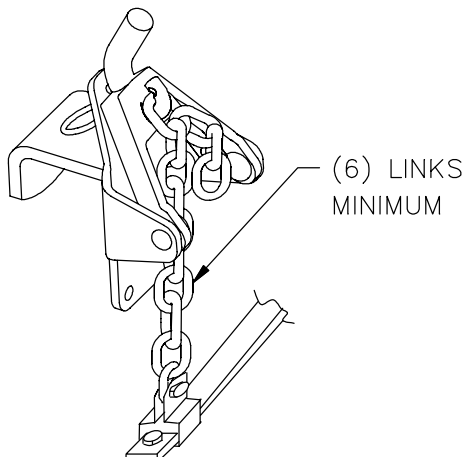

FIGURE 11
4. Attach upper end of desired chain link to lift unit hook, while allowing remaining free links to fall down to the outside of the trailer frame (See figure 11).
5. **There must be at least 6 links between the lift unit and the spring bar.** This is necessary for proper operation of the spring bars during turns(See figure 11),